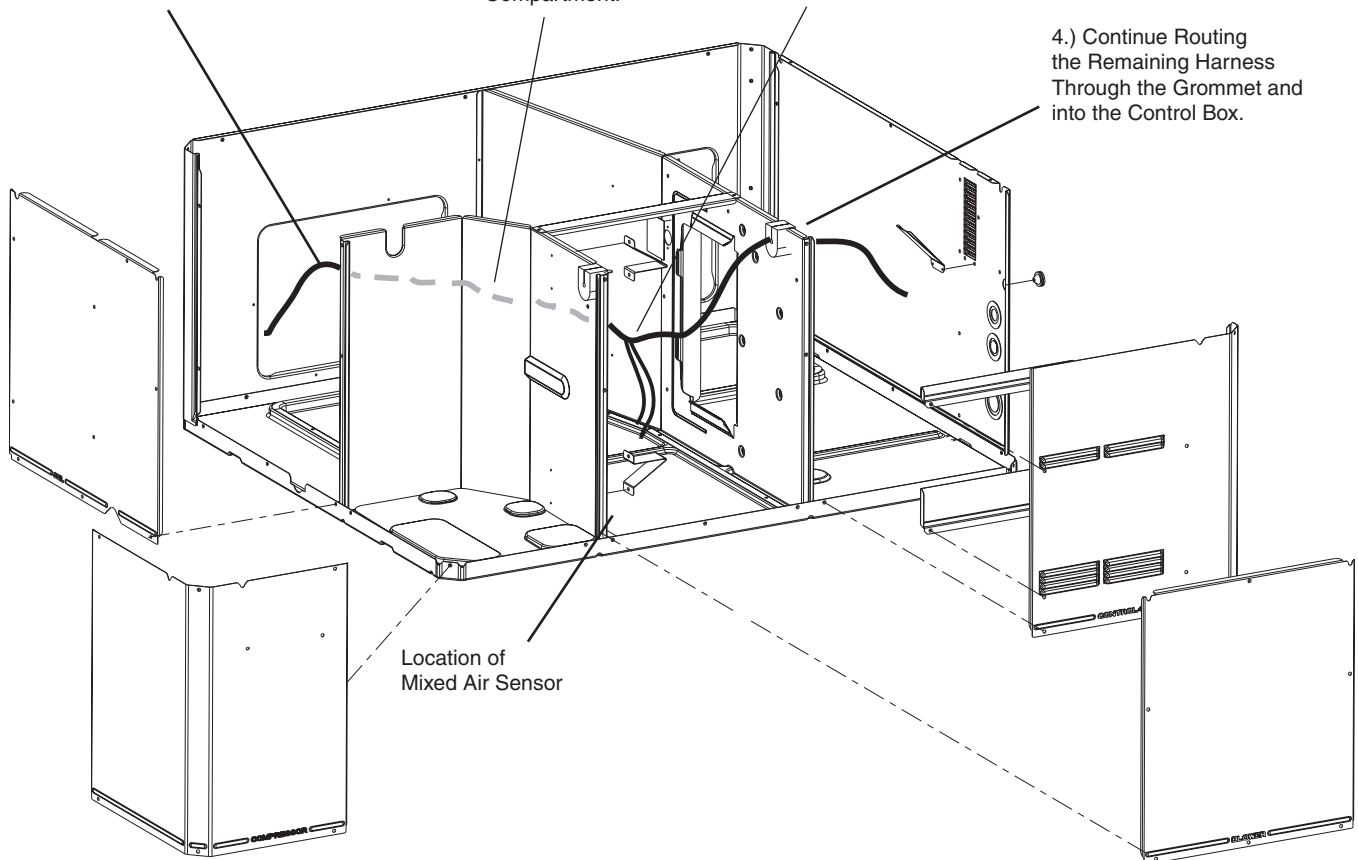

Figure 10. Main Wire Harness Routing
1. Mount the Mixed Air sensor (with wiring) to the left Blower partition using two sheetmetal screws. See Figure 10. The male tabs on the two (2) yellow wires will connect to the Economizer wiring harness in a later step.
1. From the Economizer assembly, pass the wire harness through the coil grommet. See Figure 10 (view A) on page 8. Continue routing the harness behind the Compressor compartment and into the Blower compartment.